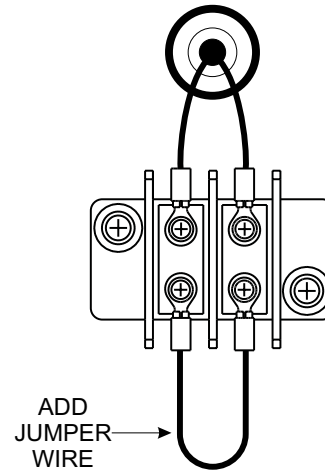

Figure 76. Auto Start Contacts (Jumpered)
2. Verify that the **auto start contacts** on all generators are jumpered as shown in Figure 76. If the auto start contacts are not jumpered **add jumper wire**.
- Remove the auto start jumper wire as shown in Figure 76.